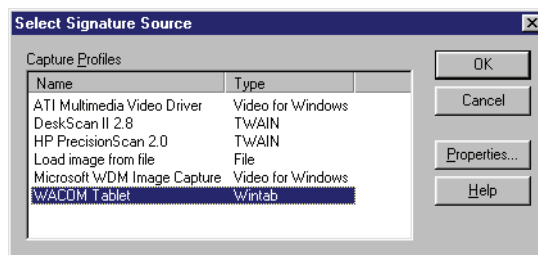

Figure 9-27: Select Signature Source
1. To acquire a digital signature for this user, click on the **Acquire Signature** button. The Select Signature Source window appears (see Figure 9-27).
- Once all these values are set, click on the button followed by the button. The Select Signature Source window re-appears (see Figure 9-27 on page 24 of this section).